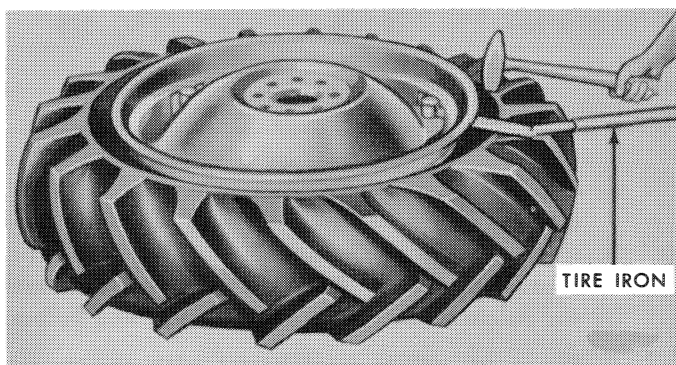

Figure 18—Loosening Tire Bead from Edge of Rim
3. Loosen both tire beads from the wheel rim, with a tire iron and a heavy mallet as shown in Figure 18.
7. Remove the flange from the tire with tire irons as shown in "B," Figure 18.